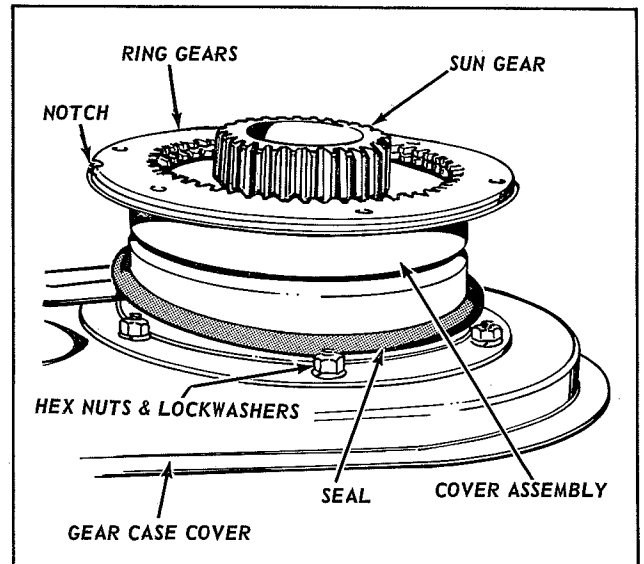

Figure 2
Fasten the housing assembly to the gear case cover using 6 hex nuts and lockwashers. Refer to Figure 2. Do not tighten at this time as loosening of the nuts will be required for proper adjustment of shifting action.
Place the housing assembly seal over housing as shown in Figure 2.
2. Place the gear case cover in a horizontal position on work bench, and place the cover assembly and the 2 ring gears over the sun gear and housing assembly as shown in Figure 2. Line up the ring gears so that the bolt holes line up with holes in flange of cover assembly and housing assembly. Each ring gear has a notch or cut-out on the outside diameter for purpose of aligning ring gears with each other.